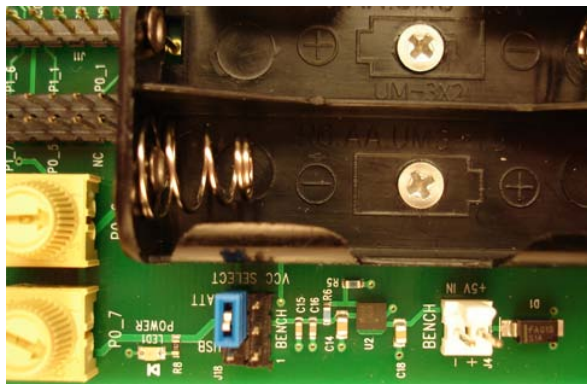

Figure 3-3. Jumper Set For Battery Supply
- To use battery power, place the jumper as shown in Figure 3-3 below and insert 2 AA batteries in power pack onboard the interface board.